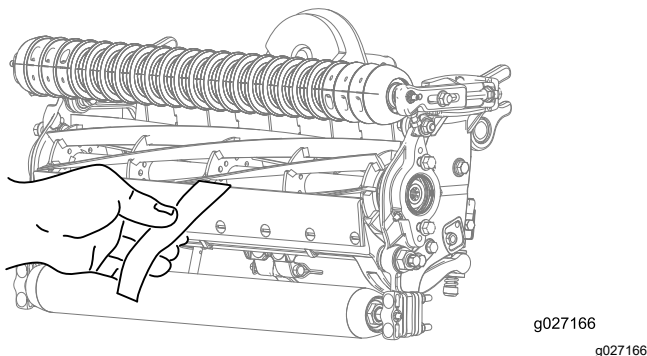

Figure 8
- B. Insert a long strip of cutting performance paper (Toro Part No. 125-5610) between the reel and the bedknife, perpendicular to the bedknife (Figure 8), then **slowly** rotate the reel forward; it should cut the paper; if not, repeat steps A and B until it does.
- Insert a long strip of cutting performance paper (Toro Part No. 125-5610) between the reel and bedknife, perpendicular to the bedknife (Figure 8), then **slowly** rotate the reel forward; it should cut the paper; if not, turn each bedbar adjusting bolt clockwise 1 click and repeat this step until it cuts the paper.